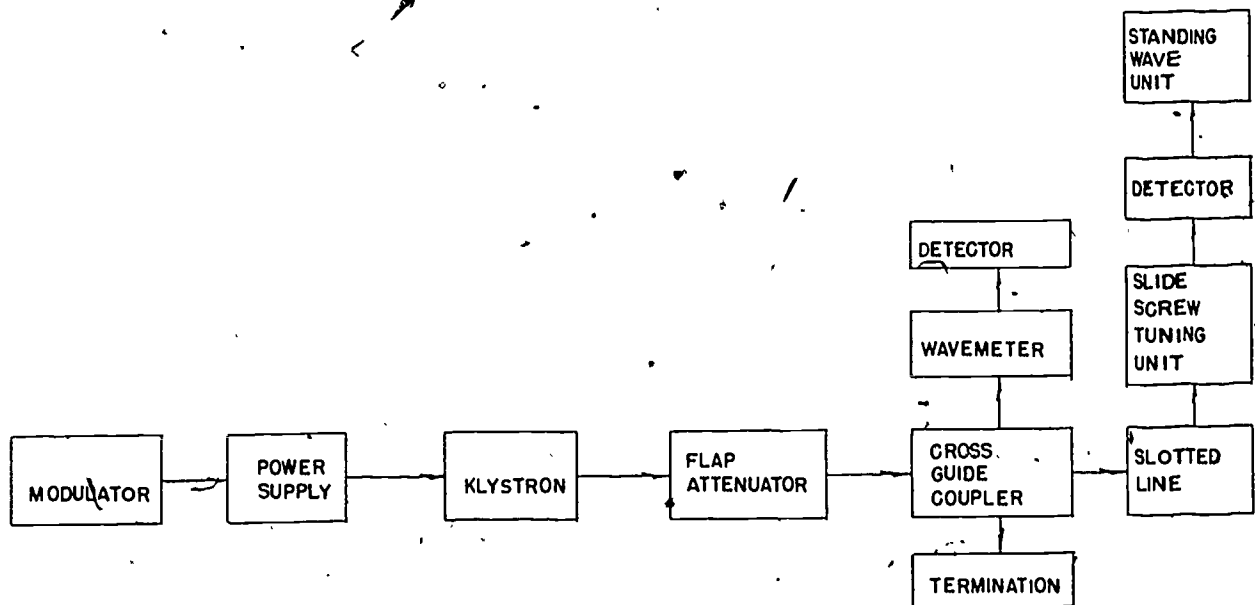

Fig. 1--Klystron Oscillator Equipment Connections
1. Connect the equipment as shown in Fig. 1. (If your kit does not contain some of the items shown, consult your instructor.) If you are using a microwave transmitter instead of the trainer, consult the manual supplied with the unit. Locate the section on "Transmitter Tune-up."